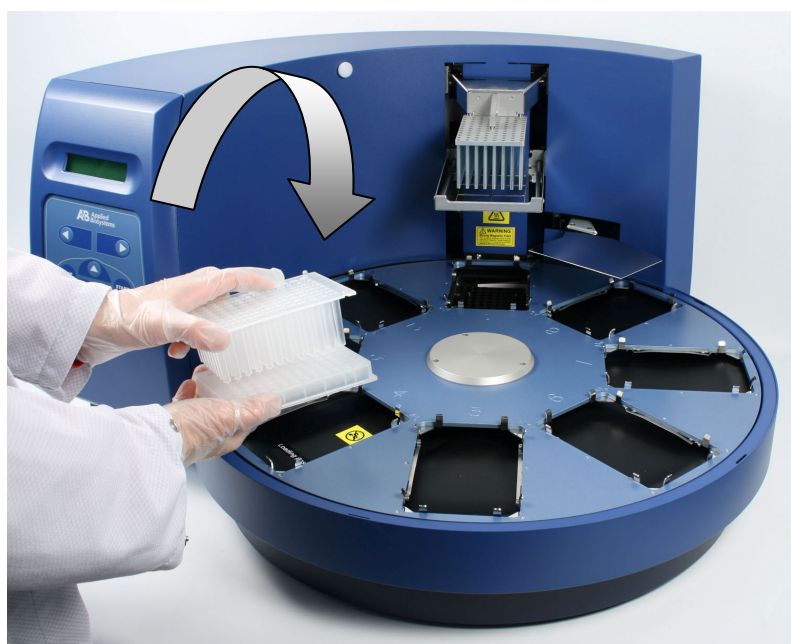
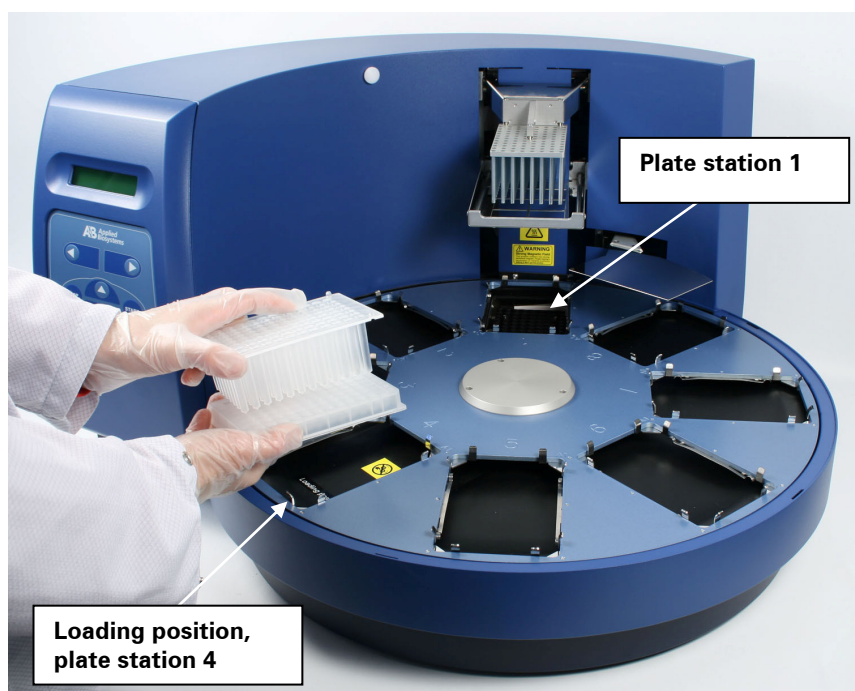
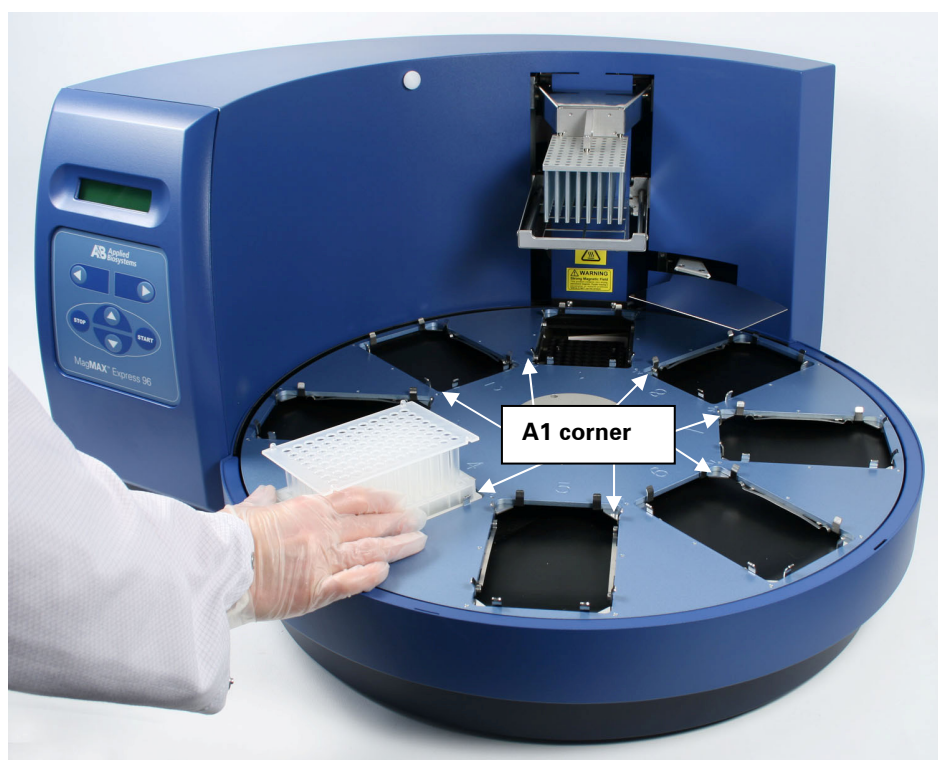
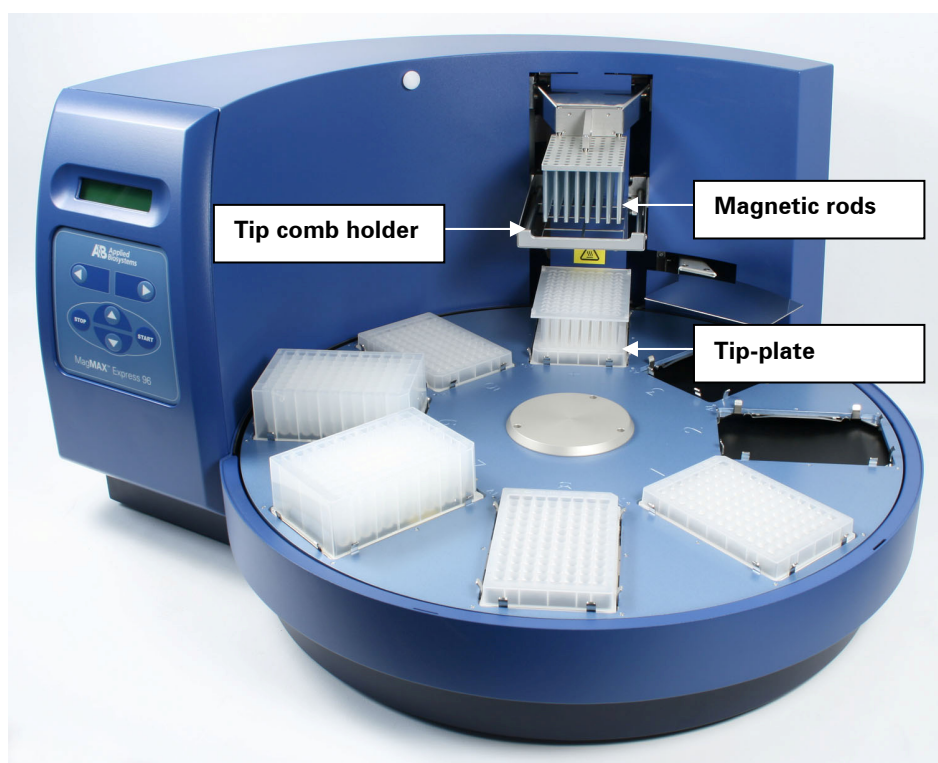

Fig. 6.5 Combining the tip comb and MagMAX™ Express 96 plate (A)
Fig. 6.6 Combining the tip comb and MagMAX™ Express 96 plate (B)
Fig. 6.7 Loading the tip-plate
Fig. 6.9 Plates loaded
2. Unpack the package by separating the two tip combs (Fig. 6.3) and placing one of the tip combs on the MagMAX™ Express 96 plate (= tip-plate) (Fig. 6.5 and Fig. 6.6).
3. Load the plates in the order that the protocol requests (Fig. 6.7 through Fig. 6.9). Place the A1 well of the plate so that it is in the upper right corner. The first A1 row is consequently always in the inner circle. Once you have loaded the requested plates into the plate stations, press **start**.
The tip comb always has to be placed manually onto a MagMAX™ Express 96 plate (Fig. 6.5 through Fig. 6.7). The instrument also functions with either one plate or up to eight plates depending on the amount of steps. **Only one tip comb** (Fig. 5.15) **is placed onto a MagMAX™ Express 96 plate (= tip-plate) per run** (Fig. 6.6). Confirm the plate loading by pressing **start**.